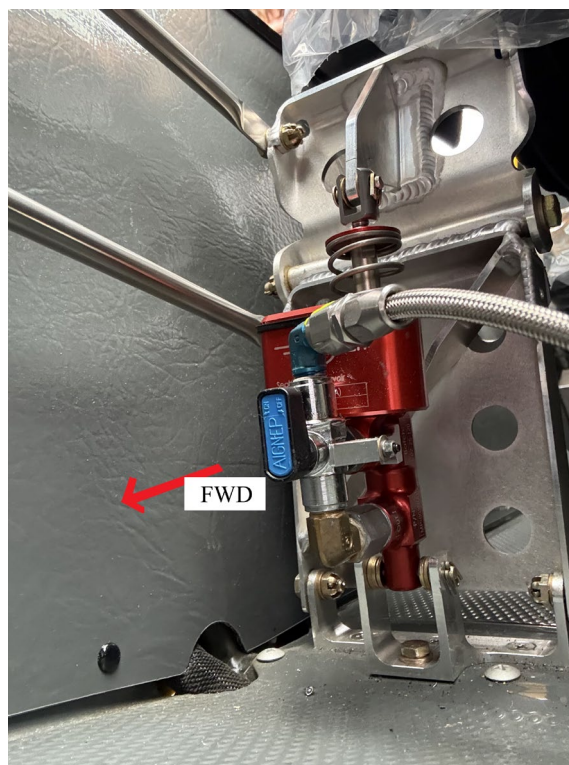

Figure 1: Parking Brake Installation (RH Shown)
2. Inspect to verify if the parking brake has been installed as shown in Figure 1:
3. If the parking brake has been installed in the way shown in Figure 1, make a logbook entry stating that the parking brake install was checked and verified to be correct in accordance with SK-SB013 Rev NC. If the parking brake install is NOT as shown, proceed to the next steps.
9. Confirm your assembly by using Figure 1 as reference. Make special note that the valve ends up oriented as shown.